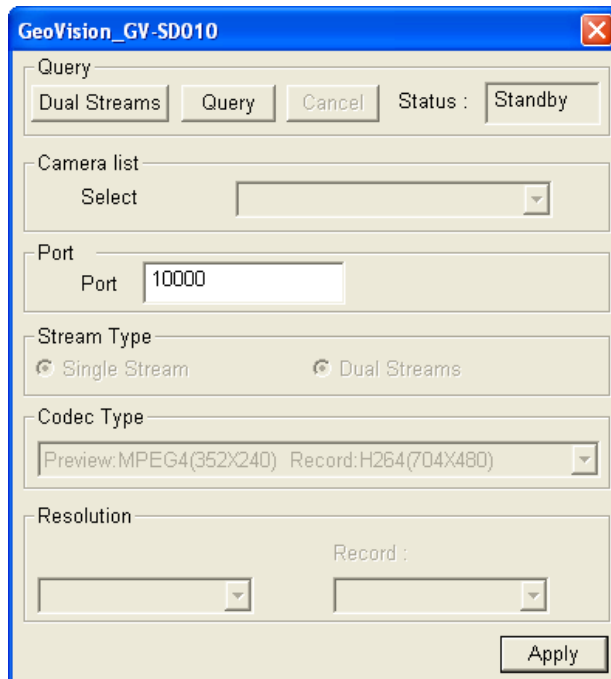

Figure 7-4
- **Preview dual stream record channel:** The option is only available when the dual stream is set, i.e. the cameras for live view and recording are configured differently (Figure 7-4). Check this option for recording preview.